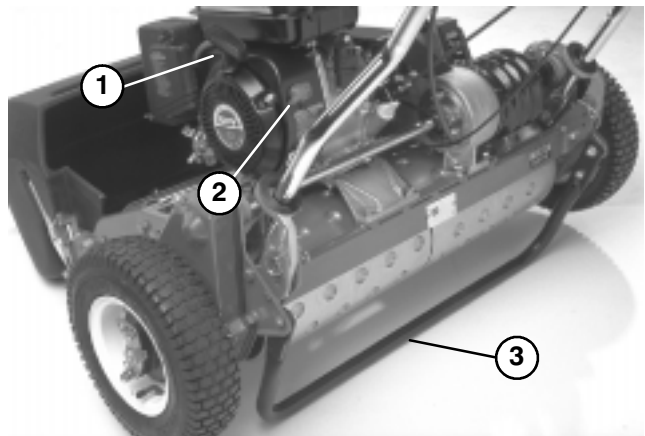

Figure 21
Recoil Starter (Fig. 21) — Pull recoil starter handle to start engine.
On/Off Switch (Fig. 21) — Located on rear of engine. Move switch to ON position to start engine and Off to stop engine.
Kick Stand (Fig. 21) — Mounted to rear of machine, kickstand is used to raise rear of machine for installation or removal of transport wheels.
3. Move ON / OFF switch (Fig. 21) to ON position.